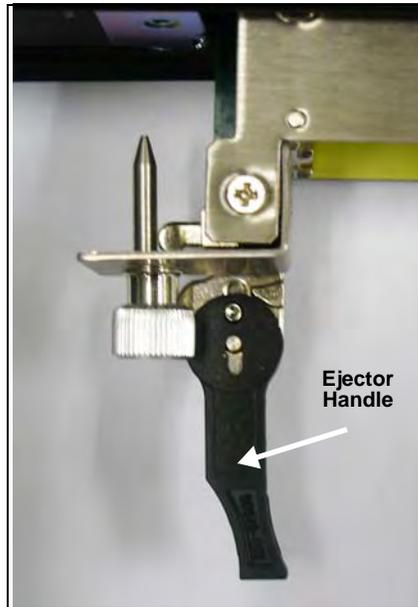

Figure 5.26 - G10 IIC Ejector Handle (Left)
1.	Position the left and right ejector handles as shown in Figure 5.26 .